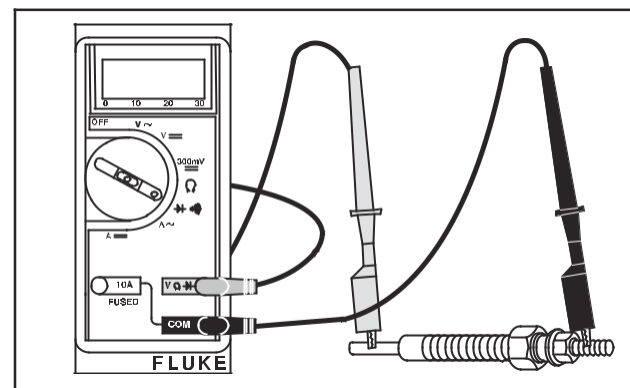

Fig. 4 – Testing Glow Plugs
1. Check glow plug for continuity as shown, Fig. 4.